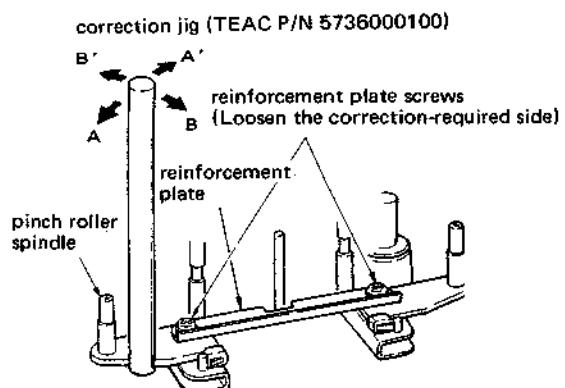

Fig. 2-18 Pinch roller/capstan alignment
- If not parallel, loosen the reinforcement plate screw near the correction-required side (Refer to Fig. 2-18), then correct tilt of pinch roller spindle using correction jig. Adjustment can be done by tilting correction jig in direction of arrow A or A'.
- If needed, adjust by tilting correction jig in direction of arrow B or B' in Fig. 2-18.
4. If a change is found, re-adjust accurately tilt of pinch roller spindle by method illustrated in Fig. 2-18.